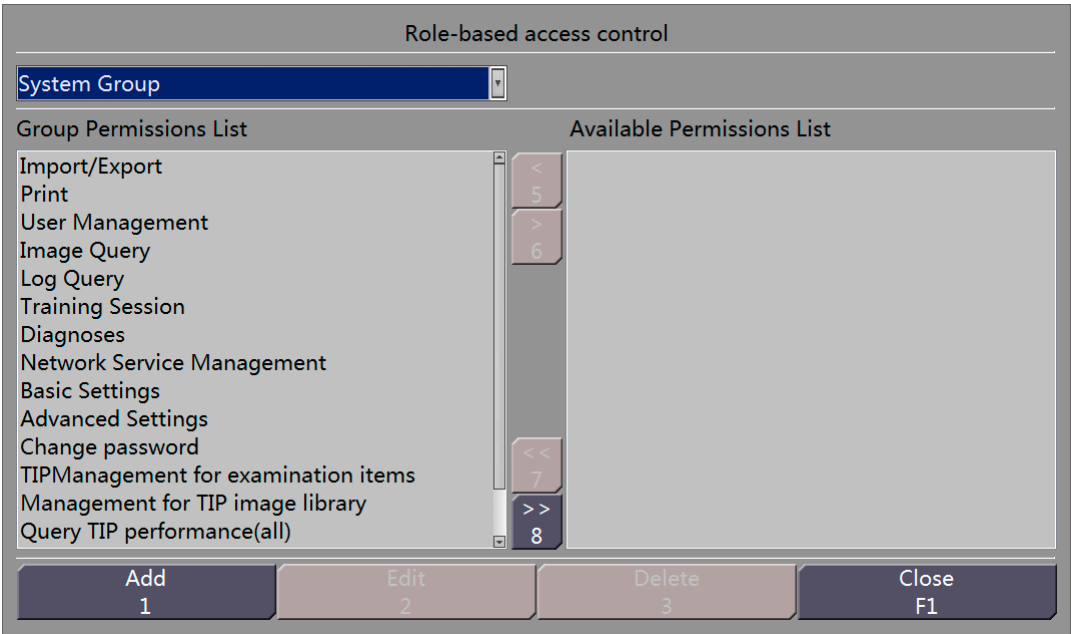
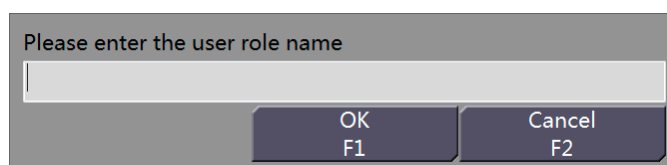

Figure 13-16 Role-based Permission Management Interface
Figure 13-19 Interface for Editing User Role Name
Choose Role-based Permission Management from the User Management menu to display the Role-based Permission Management interface, as shown in Figure 13-16.
- To add a permission, select the permission from the Available Permissions List on the right part of the interface shown in Figure 13-16 and click  to add it to the Existing Group Permissions List on the left.
- To delete a permission, select the permission from the Existing Group Permissions List on the left part of the interface shown in Figure 13-16, and click .
Step 1 Select the role name you want to edit in the user group list on the left of the interface in Figure 13-16. Click "Edit" button to bring up the dialog box as shown in Figure 13-19.